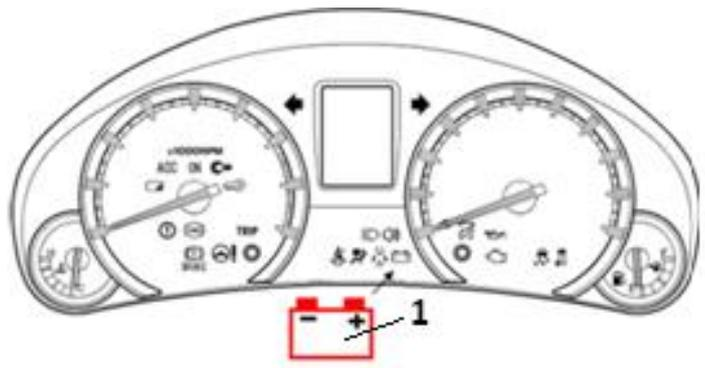

Figure 9
- 8.3 Give the use of the of the indication lamp on **Figure 9** above represented by the **part 1** (2marks)